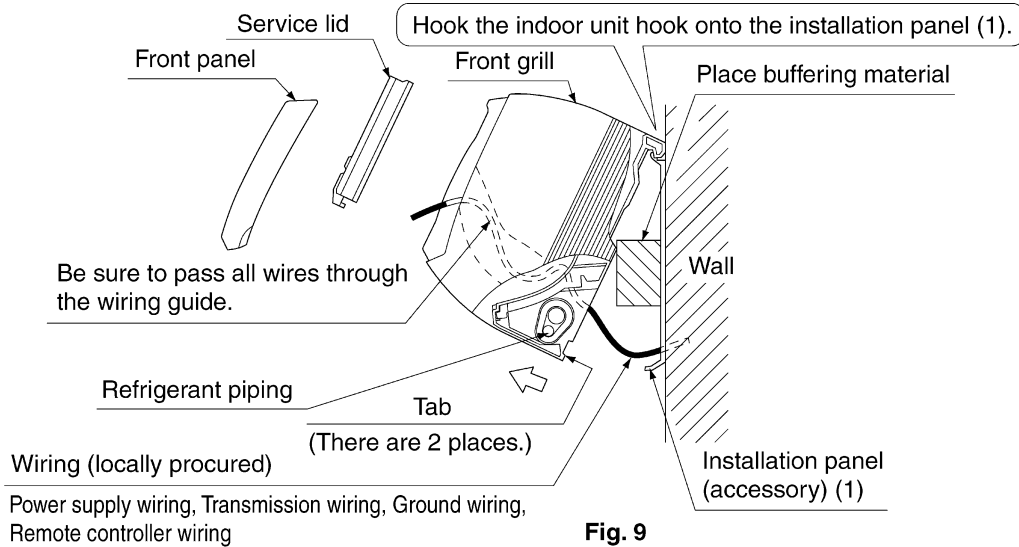

**Fig. 8**
- Remove the drain plug, the insulation tubing, and the drain hose from the drain pan and replace. (Refer to Fig. 8)
- Connect the local refrigerant piping ahead of time, matching it to the liquid pipe and gas pipe marks engraved on the installation panel (1).
- (1) Remove the drain plug and insulation tubing.
- (2) Remove the drain hose and replace onto the left side.
- (3) Replace the drain plug and the insulation tubing onto the right side.